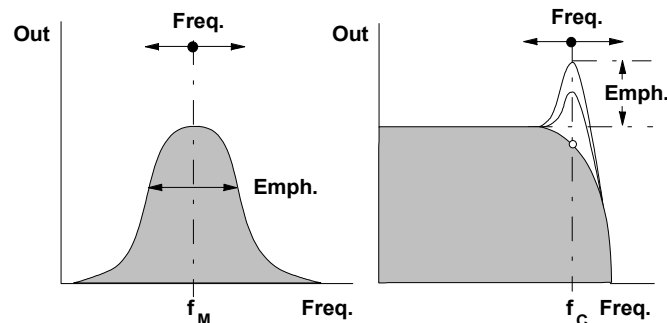

Fig. 1: Frequency response of band and low pass
- ① **Audio In :** Audio input to the filter
- ② **BP, 6 db LP ... 48 db LP :** Filter outputs
- ③ **CV 1:** Control voltage input for frequency control, approx. 1V/Oct.
- ③ **CV 2:** Control voltage input for frequency control, level controlled by ②
- ③ **CV 3:** Control voltage input for frequency control, level controlled by ③
- ④ **Feedb. :** external feedback input for resonance (audio input)
① Freq.
Control ① is used to adjust the **filter frequency** manually, i.e. the **middle frequency** f_M for the **band pass** resp. the **cut-off frequency** f_C for the **low pass** (see fig. 1).